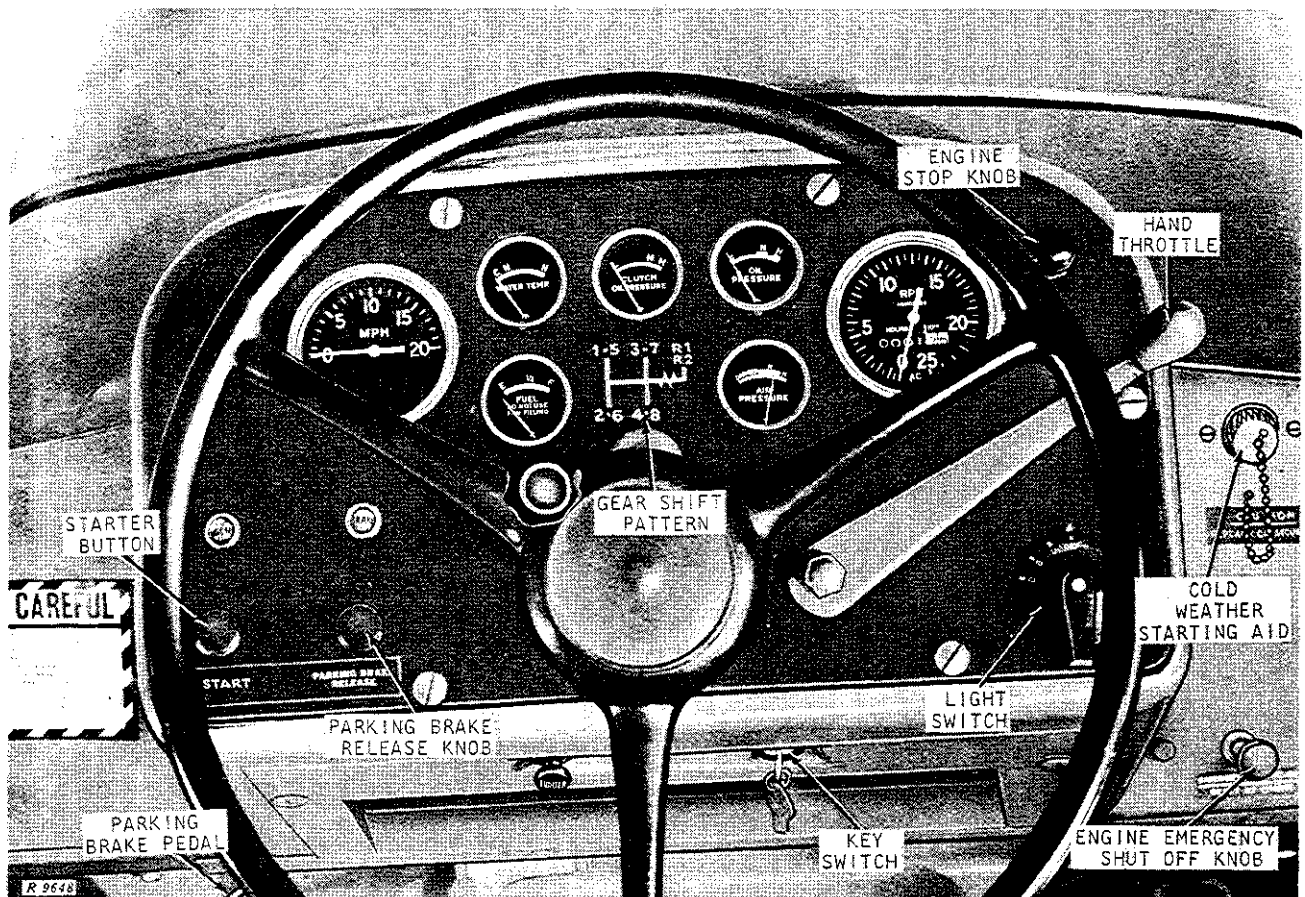

Fig. 10-10-1—Controls
This switch (Fig. 10-10-1) controls the entire electrical system of the tractor. The electrical equipment on the tractor will not operate until the key switch is turned on. When the key is turned to the "ON" position, the fuel gauge is activated and current is made available to the starter and light switches and generator, parking brake, and low air and/or low engine oil pressure warning lamps.
The covered tube (Fig. 10-10-1) on the side of the right cowl panel leads to the engine air intake system. During cold weather, ether is sprayed into this tube to help start the engine.
The hand throttle (Fig. 10-10-1) controls engine speed. Pulling the lever down increases engine speed; pushing it up decreases engine speed to slow idle.
This knob is located on the instrument panel (Fig. 10-10-1). The engine is normally stopped by pulling out on this knob.
In rare instances, it may not be possible to stop the engine in the regular manner. In this case, the engine can be stopped by pulling out on the knob located on the right cowl panel (Fig. 10-10-1). Pulling this knob cuts off the engine air supply, causing it to stop.
The mechanically operated parking brake is activated by the pedal at the extreme left-hand side of the platform, (Fig. 10-10-1). When depressed, the pedal applies the brake and automatically locks it in the applied position.
The parking brake is released by pulling this knob (Fig. 10-10-1).
The light switch (Fig. 10-10-1) is used to turn on the lights.
- (1) Perform the following periodic services before starting the engine for the first time each day: (Refer to Group 10 of Section 30 for details).
- (2) Make sure fuel shutoff valve on the bottom of the fuel tank is open.
- (3) Place shift lever in neutral and depress the clutch pedal to decrease drag on the engine. During cold weather, disengage the hydraulic pump by pulling up on the hydraulic pump disconnect knob.
- (4) Pull the hand throttle down to full-open position to set injector racks and insure delivery of fuel to the injectors. Then move the throttle back to idle position (as far up as it will go).
- (5) Turn key switch on. Press starter button (Fig. 10-10-1) to crank the engine. Do not hold button in start position for more than 30 seconds at a time. To do so may overheat the starter. If the engine does not start the first time, wait a minute or so before trying again. This will allow the starter to cool.
To start the engine in cold weather, remove the cap from the cold weather starting aid adapter on the right cowl panel (Fig. 10-10-1).